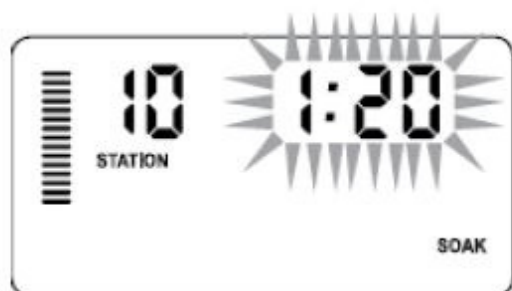

Figure 5 - Example of Soak screen with hours included.
Once the desired station is displayed, press the **plus (+)** and **minus (-)** buttons to increase or decrease the soak time. Set the time from one (1) minute to four (4) hours in one (1) minute increments. Less than one (1) hour, only minutes are displayed (e.g., 3). At one (1) hour or greater, the display changes to include the hour digit (e.g., 1:20) – Fig. 5.